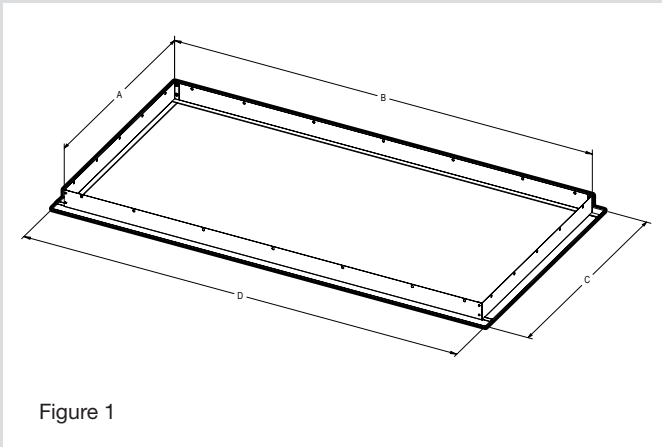
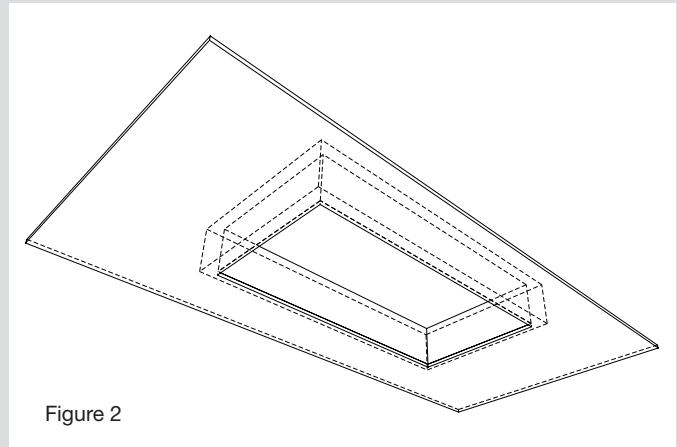

Figure 1
Figure 2
1. Make sure that you have a rectangular hole in the ceiling (Table 1, Fig. 1) and wood framing of the same dimensions (Fig. 2).